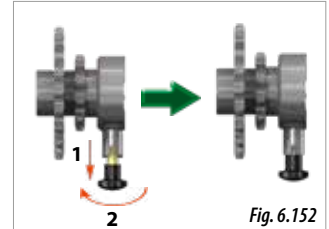

Fig. 6.152
- 3- In the transmission axle where the clutch is (Fig. 6.149), pull the securing knob and turn it 90° to lock it at the transmission position (Fig. 6.152).